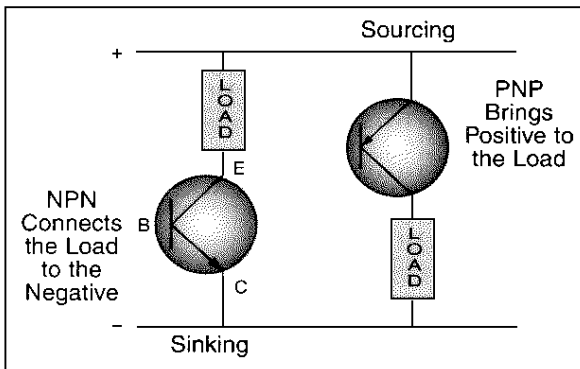

FIGURE 5. Transistor switching for DC.
1. NPN connects the load to the negative (Figure 5). This is called *sinking*.
2. PNP connects the positive to the load (Figure 5). This is called *sourcing*.